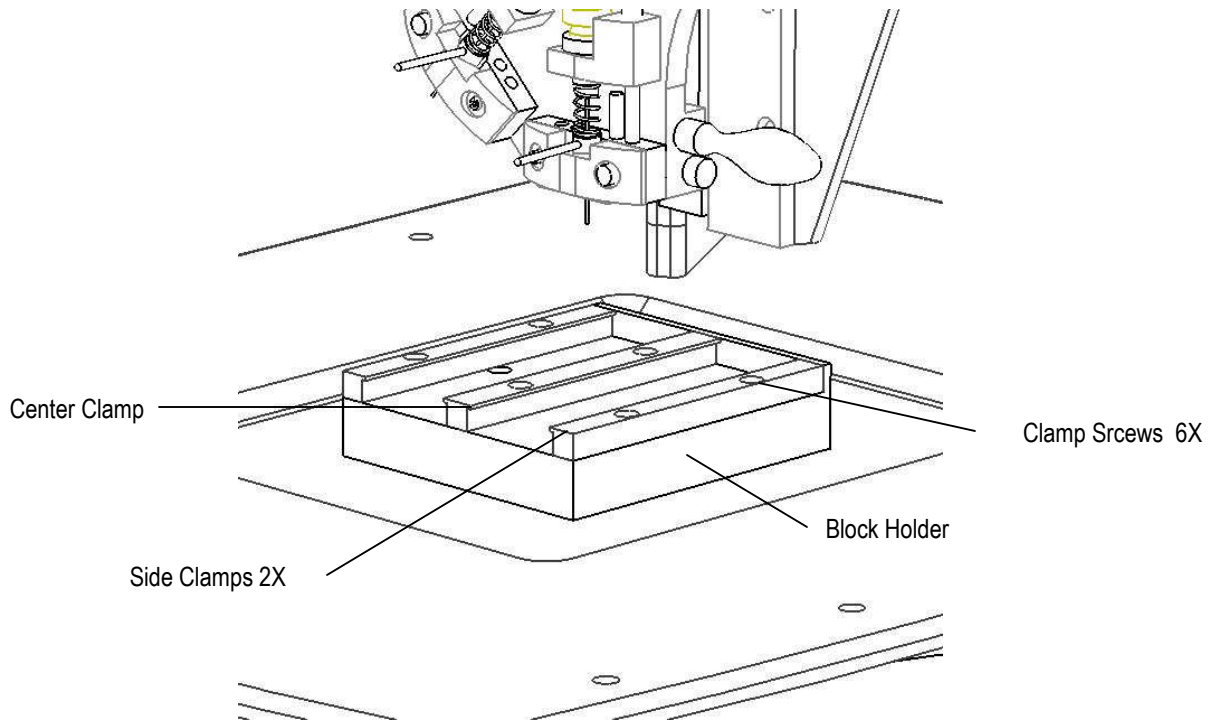

FIG 8. Block Holder and Clamps
Step 1: Insert the Recipient Blocks and clamp them down See Fig 8.